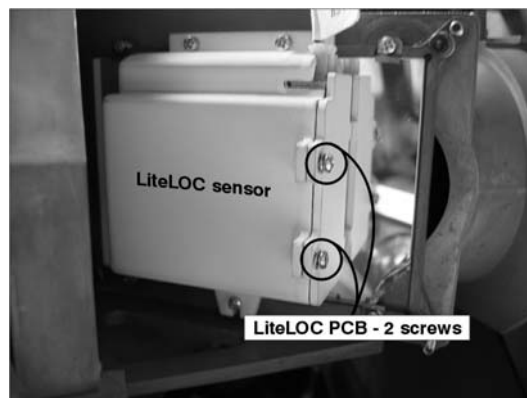

Figure 58. Remove LiteLOC PCB
4. If you want to replace the PCB only, remove the two (2) screws securing it to the housing. (Figure 58.)